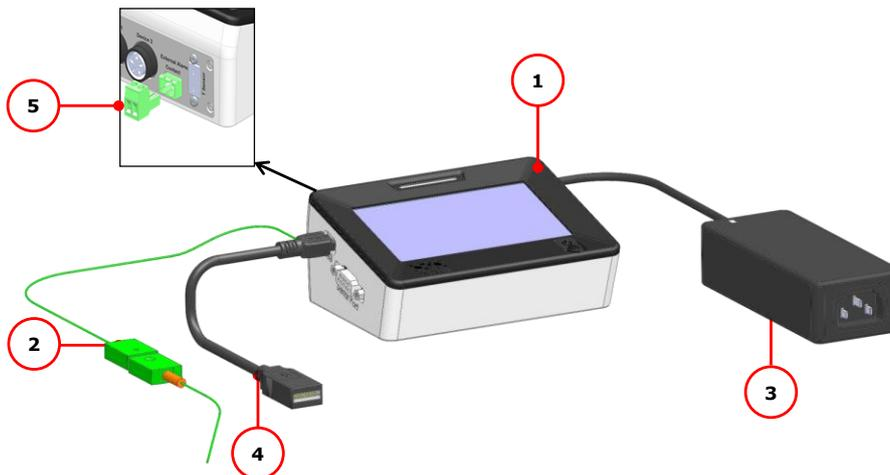

Figure 1. H401-T-CONTROLLER – Components.
- 1 **Controller.** Dual channel temperature controller. See pointer 1 in Figure 1.
- 2 **T Sensor.** Fine gauge immersible thermocouple, which can be used to calibrate the heating devices connected to the Controller and to meter temperature, as needed. See pointer 2 in Figure 1.
- 3 **Power feeder and power cord.** 24V DC-60 W power feeder. See pointer 3 in Figure 1.
- 4 **MINI-USB-OTG.** Mini USB OTG cable to connect a USB drive to the H401-T-CONTROLLER for data download. See pointer 4 in Figure 1.
- 5 **Alarm screw terminal.** Contact closure alarm. See pointer 5 in Figure 1.